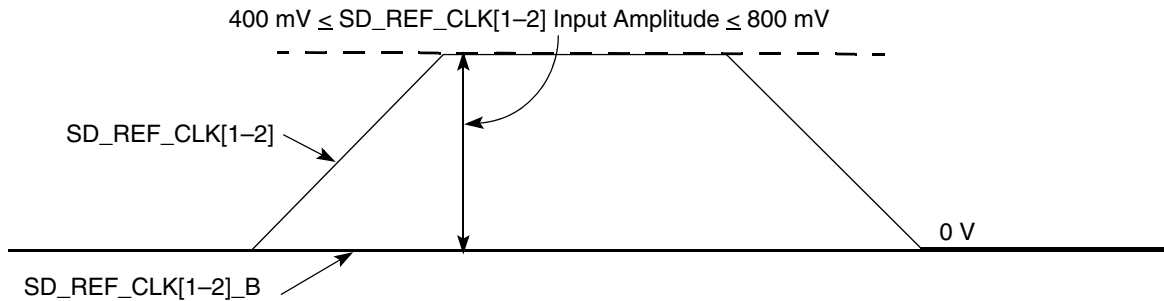

Figure 41. Single-Ended Reference Clock Input DC Requirements
- The SD_REF_CLK[1-2] input average voltage must be between 200 and 400 mV. Figure 41 shows the SerDes reference clock input requirement for single-ended signaling mode.